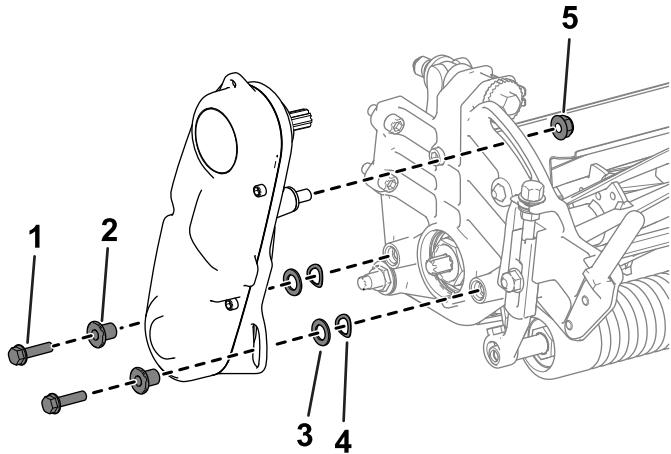

Figure 36
2. Remove the hardware that secures the reel-drive assembly to the side plate (Figure 36).
3. Remove the reel-drive assembly, flat washers, spring washers, and spacers from the side plate (Figure 36).